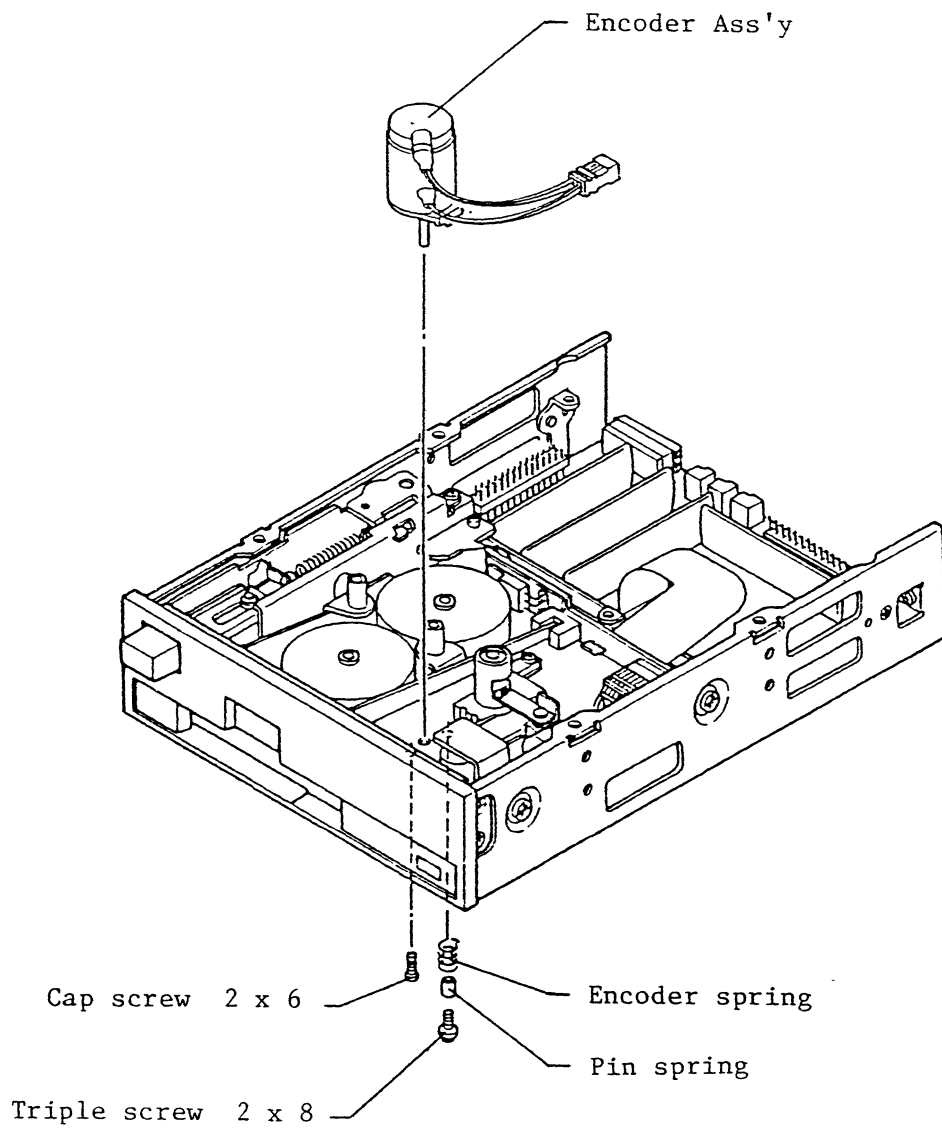

Fig.444 Replacement of encoder Ass'y
- (g) Remove the two mounting screws from the encoder Ass'y, and detach the encoder Ass'y, encoder spring, and pin spring (Fig. 444).